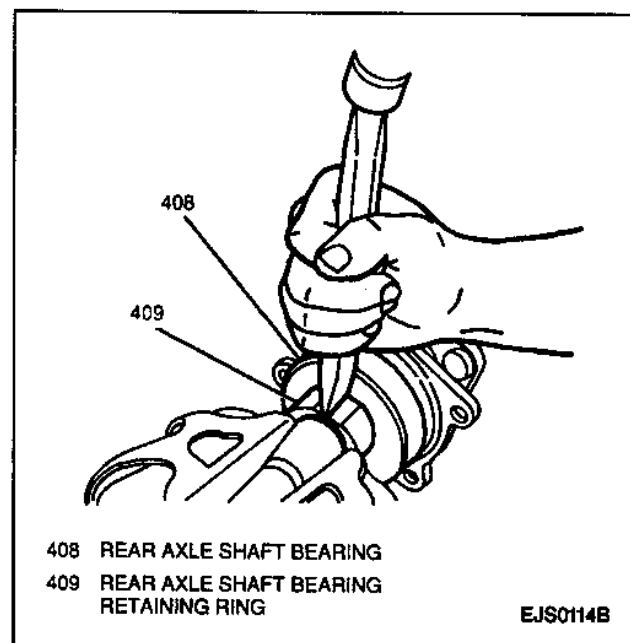

Figure 11—Removing Rear Axle Shaft Bearing Retainer Ring
11. Rear axle shaft bearing retainer ring on axle shaft using a hammer and cold chisel (Figure 11).